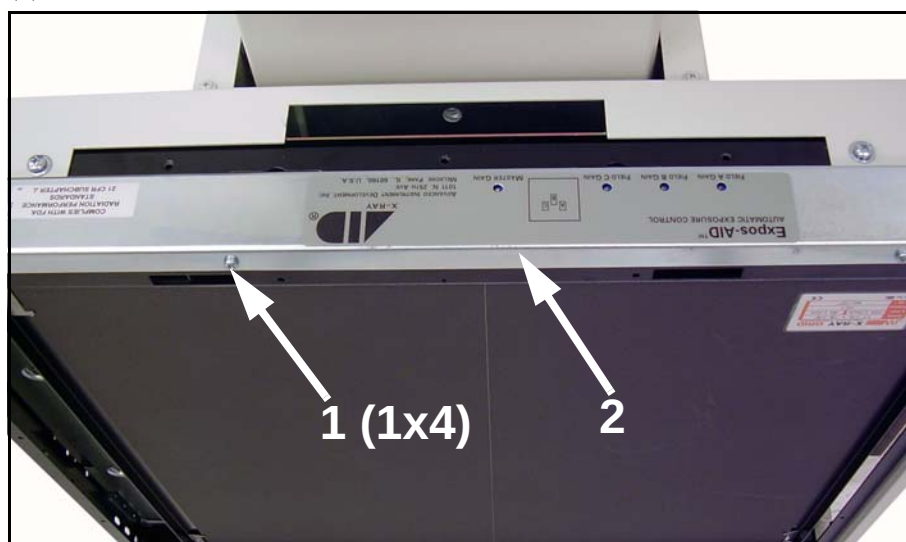

Figure 5-7. ION Chamber Cover Screws
11 Unscrew four cover screws (1 in Figure 5-7) and remove ION cover (2).